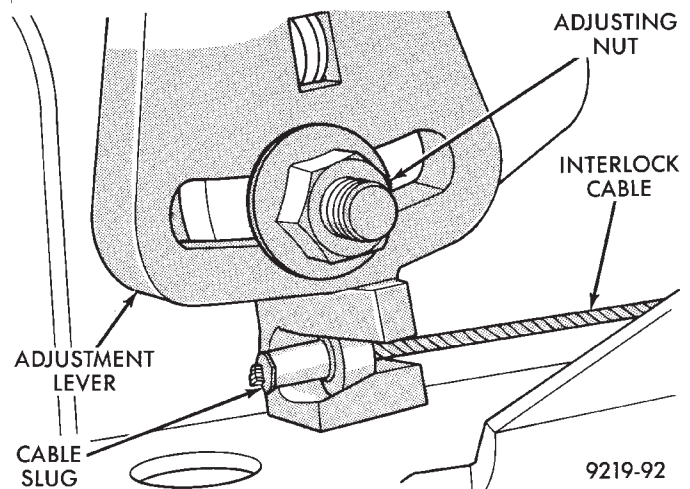

Fig. 14 Install Interlock Cable In Shifter
(7) Install slug on end of interlock cable into notch, on shifter lockout spring loaded lever (Fig. 14). Make sure that cable slug is fully seated in cup of lever assembly.